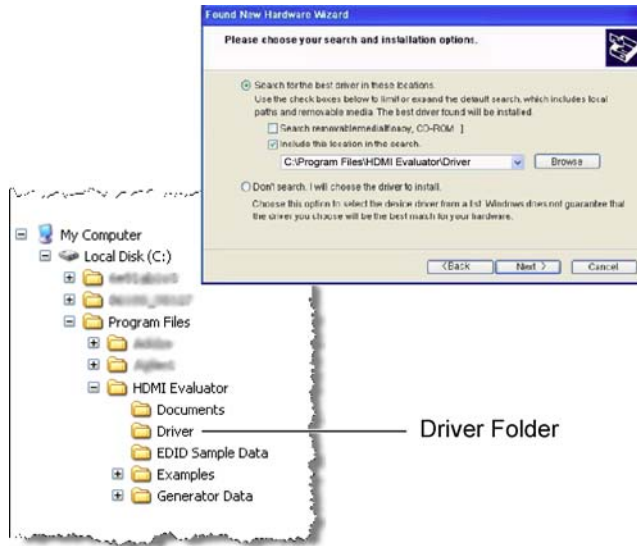

Figure 5 Installation Options
- 6 As shown in Figure 5, select "Search for the best driver in these locations" and "select Include this location in the search".